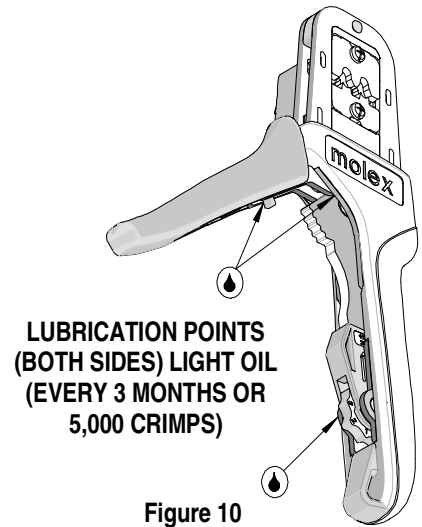

Figure 10
1. Hold the hand tool in the palm of your hand as shown in Figure 10. Using the index finger squeeze the link towards the top of the hand tool frame. This will release the preload adjustment wheel.
2. Rotate the setting wheel counter-clockwise (CCW) to increase handle force. The numbers will display higher. To decrease handle force rotate the setting wheel clockwise (CW).